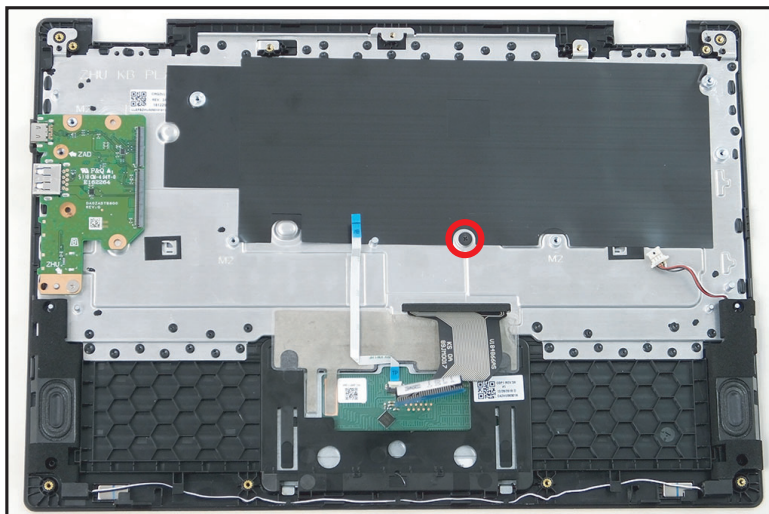

Figure 1-47. Keyboard Removal
1. Remove one (1) screw securing the keyboard in place (Figure 1-47).